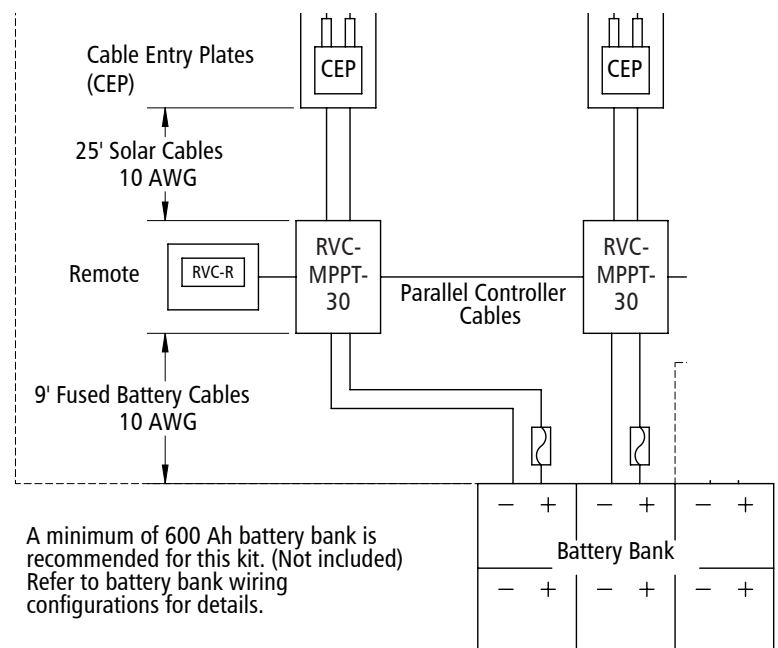

FIGURE 3-A
1. Plan where the GP-RVC-MPPT-30 charge controller(s) will mount, see Figure 3-A for more detail including maximum distances.